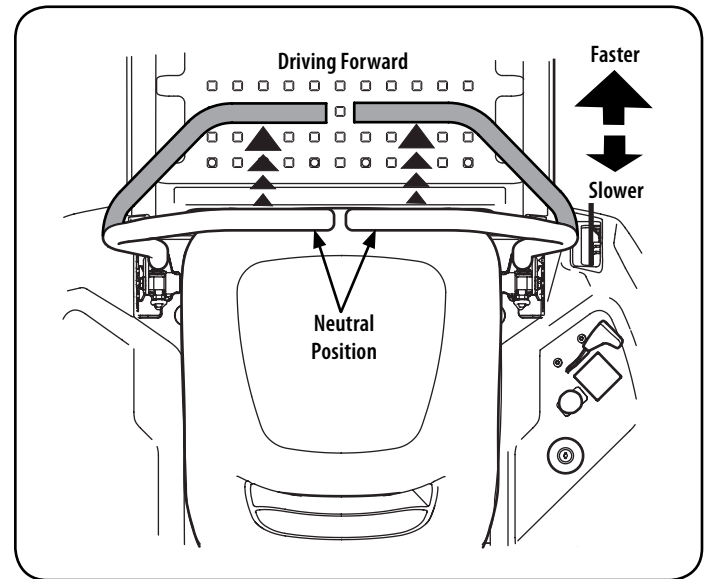

Figure 10
1. Slowly and evenly move both drive control levers forward. The riding mower will start to move forward. See “Figure 10”.